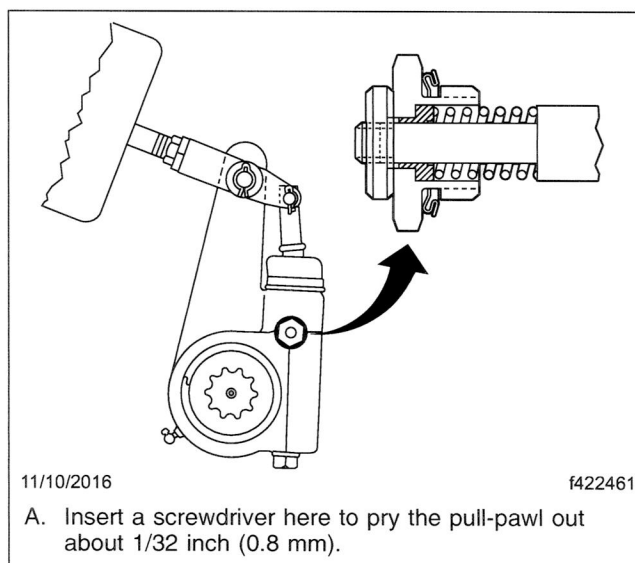

Fig. 4, Meritor ASA Pull-Pawl Disengagement
- 7.2 For a Meritor automatic slack adjuster, disengage the pull-pawl on the side of the adjuster. Using a screwdriver or an equivalent tool, pry the pawl button out about 1/32 inch (0.8 mm) and wedge the tool in place. See **Fig. 4**. Pull-pawls are spring-loaded. When the tool is removed, the pull-pawl will engage the teeth automatically.